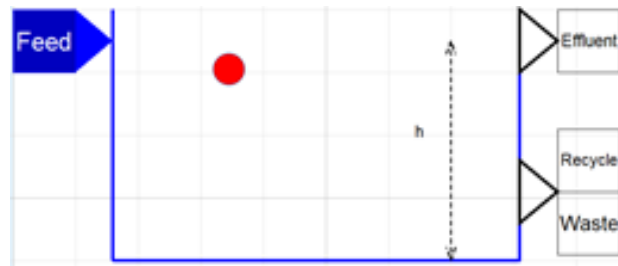

Figure 6: Icon example for settler
- Next create your own icon for the model by selecting the icon menu at the top (blue square). On the top left you are given the possibility to create simple icons from lines/rectangles/ellipses and polygons. The line and fill color is also editable. The input/output box representation can be moved as required. See Figure 6 for an example.